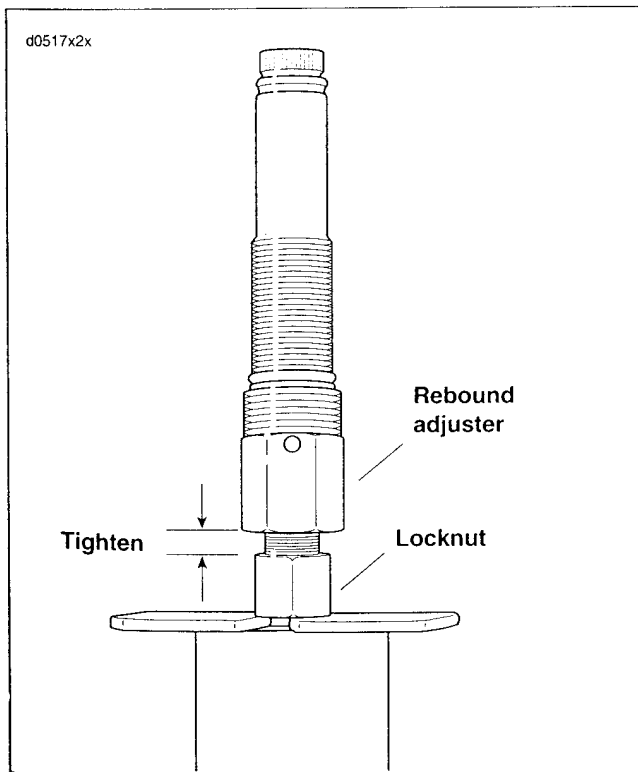

Figure 2-96.
- d. See Figure 2-96. Thread locknut on damper rod up to contact base of rebound adjuster and tighten in place.